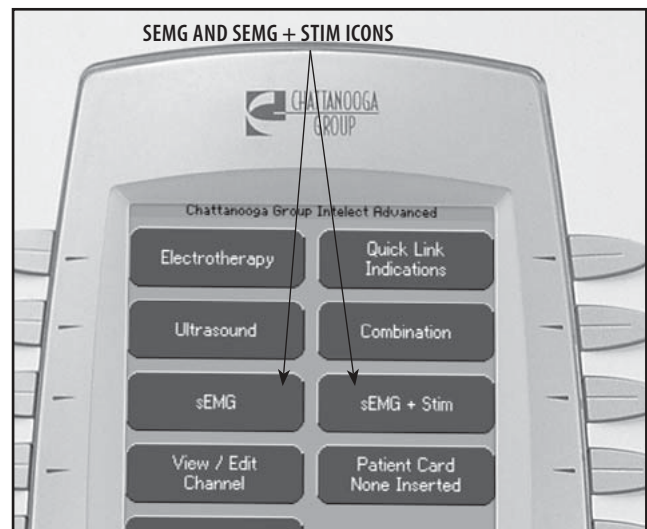

FIGURE 5.30
1. Turn System On. View Home Screen for the presence of the sEMG and the sEMG + Stim icons. **See Figure 5.30**. If icons are not visible, stop test and make necessary repairs to the sEMG Module and System.